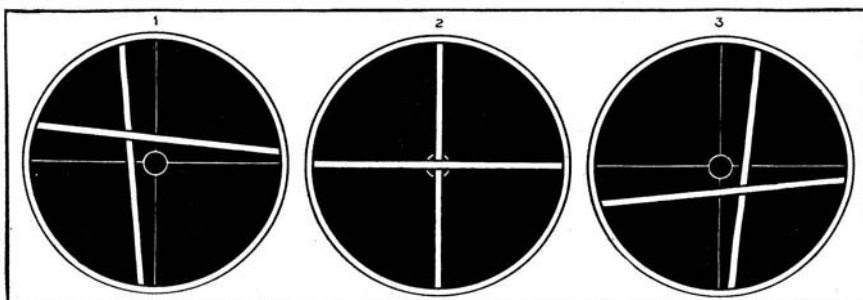

Figure 5: Diagram of three indications given by the combination instrument shown in Figure 4 above. These show three different positions of plane. See text
The instrument indications for several arbitrary positions of the airplane are given in Figure 5. At (1), the airplane is to the left of the runway course and too high; at (2), the airplane is on the runway course and on the proper landing path; at (3), the airplane is to the right of the runway course and too low.